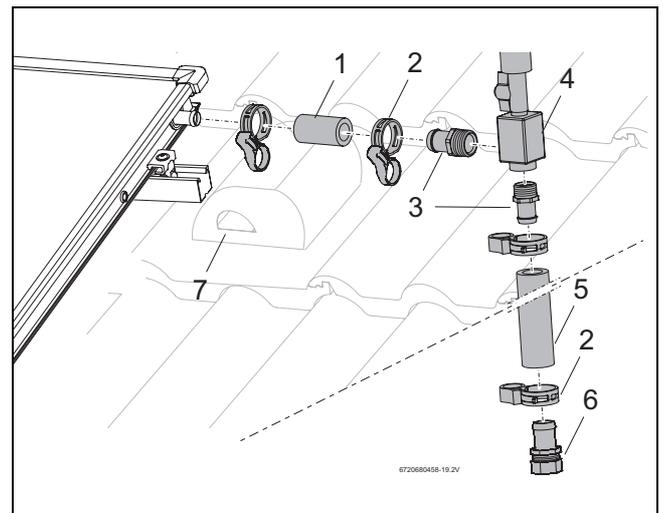

Fig. 52 Connecting the purging device on the roof top
- ▶ Fix the solar hose (55 mm, Fig. 52, [1]) to the flow connection of the collector array and fix to hose clip.
- ▶ Tighten the R $\frac{3}{4}$  hose terminals with the O-rings (Fig. 52, [3]) in the air chamber (Fig. 52, [4]).
- ▶ Insert the hose ends (Fig. 52, [3]) as far as they can go into the solar hose (Fig. 52, [1] and [5]) and secure with hose clip (Fig. 52, [2]).
- ▶ Push the double ended screw of the locking ring into the solar hose (Fig. 52, [6]) until it touches the hose clip.
- ▶ Route the solar hose, together with the solar probe, along the ventilated tile (Fig. 52, [7]) and along the rooftop insulation.
- ▶ Connect the collector pipe to the hose terminal with the locking ring threaded connection (18 mm) (Fig. 52, [6]).